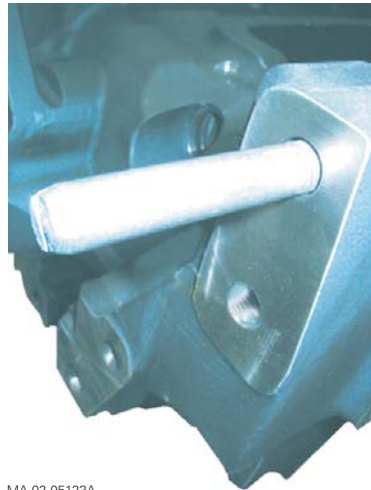

Fig. 15
34. Screw a guide studs onto each rear face of the front frame (Fig. 15).